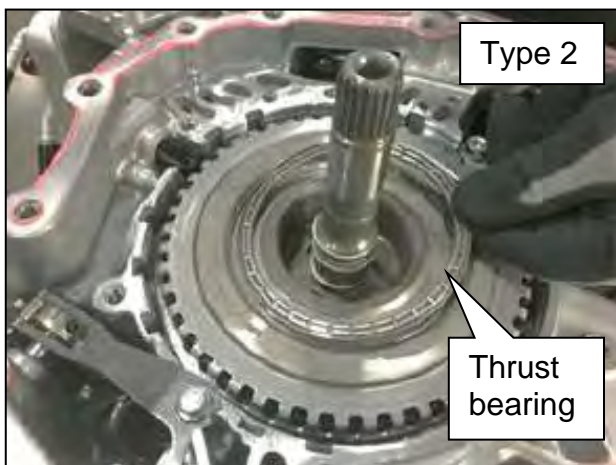
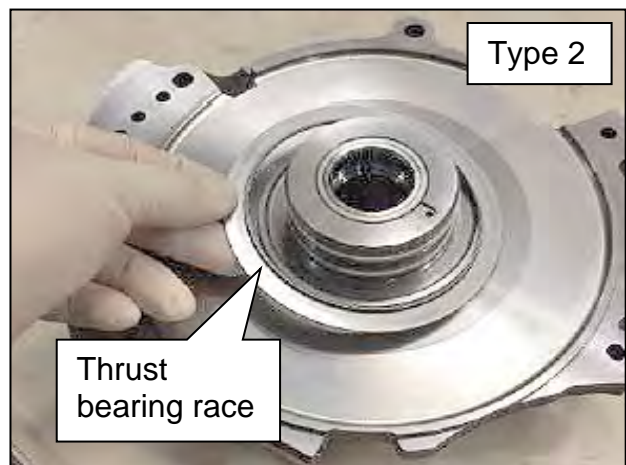

Figure 53
Figure 54
- Depending on the model year and make of the vehicle there will be one of two different dummy covers and corresponding clutch packs; Type 1 (Thrust Bearing) and Type 2 (Thrust Bearing with Bearing Race) – Figure 53 and Figure 54.
30. For **Type 2**, remove the thrust bearing from clutch assembly (Figure 53) and bearing race from the dummy cover (Figure 54).